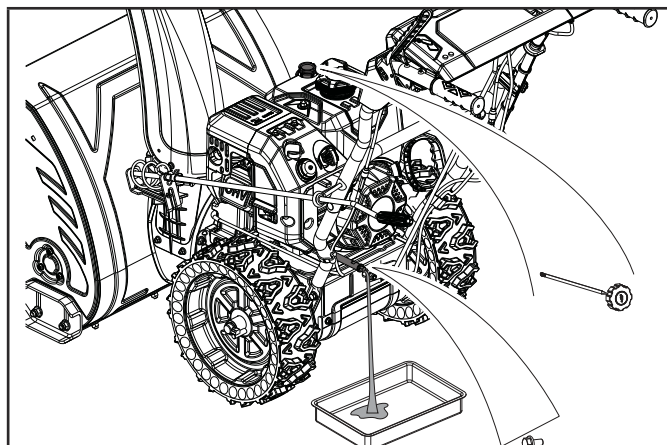

Figure 25
3. Remove the drain bolt and drain the oil into the container by slightly tipping the engine to facilitate draining (Fig. 25).